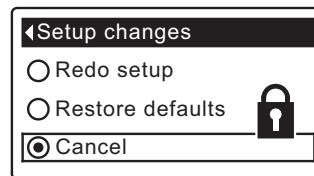

FIG. 25
8. Press the RIGHT (▶) button. A flashing padlock icon will appear, as shown in Figure 25.
- 1-7. Go to the **Setup changes** screen (Figure 25) by following Steps 1-7 at left.